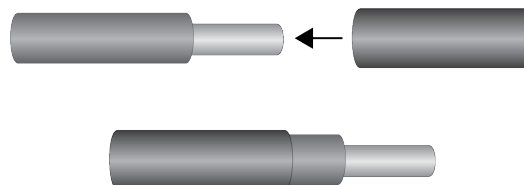

Figure 31. Sliding a Heat-shrink Tube Over the Grounding Wire
2. Slide a heat-shrink tube over the grounding wire. Refer to Figure 31